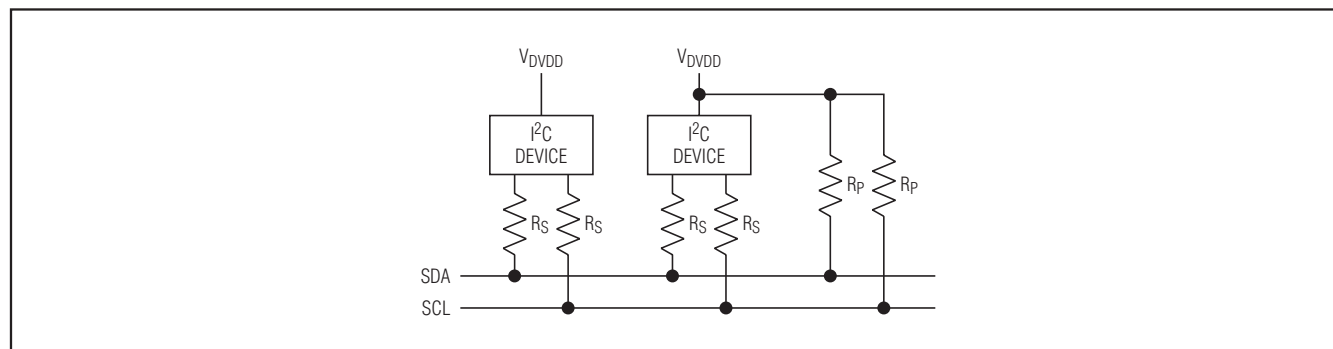

Figure 4. Series Resistors (Rs) for Protecting Against High-Voltage Spikes
(VDD = 1.8V to 3.6V, TA = -40°C to +85°C.) (See Figure 4.)
**Note 18:** The maximum fall time of 300ns for the SDA and SCL bus lines as shown in the *I2C Bus Controller Timing* table is longer than the specified maximum tOF\_I2C of 250ns for the output stages. This allows series protection resistors (Rs) to be connected between the SDA/SCL pins and the SDA/SCL bus lines as shown in the *I2C Bus Controller Timing (Acting as I2C Slave)* table without exceeding the maximum specified fall time. See Figure 4.